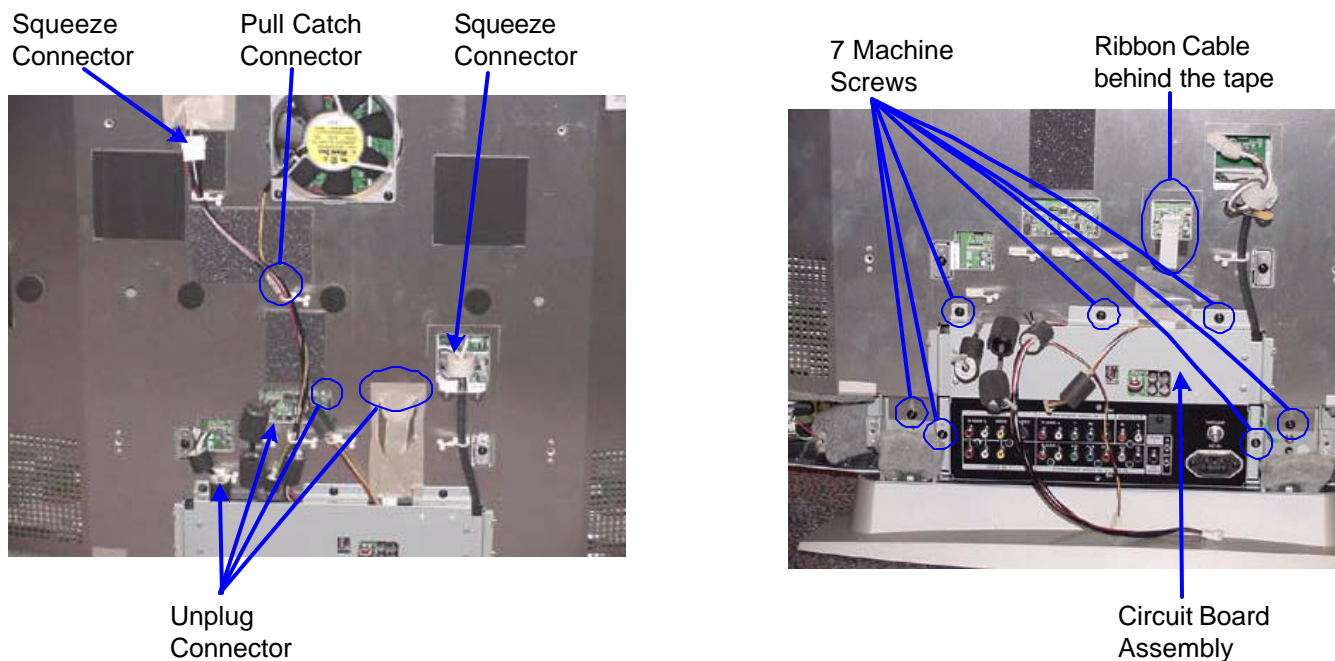

FIGURE 9-3 - REMOVE 7 CONNECTORS AND 7 SCREWS
- b) Seven connectors must be removed. Three connectors have a catch that must be pulled or squeezed to separate the connector. The remaining four connectors are simply unplugged. Remove the conductive mesh tape that shields the ribbon connector and unplug the white ribbon cable (Figure 9-3) by pulling it straight out. Do not fold the ribbon cable.